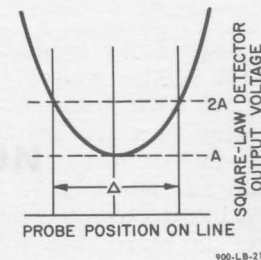

Figure 3-4. Method of measuring the width-of-voltage minimum.
At the voltage maximum, high probe coupling causes a loading effect with a resulting error in the SWR indication. However, at the voltage minimum, a high degree of probe coupling is required to detect the signal. These extremes in the probe coupling requirements at the maxima and minima can cause erroneous SWR indications. A measurement technique called width-of-minimum can be used to accurately extrapolate the voltage minimum. The width-of-minimum technique has its analogy in the measurement of bandwidth between the two half-power points. Figure 3-4 illustrates the width-of-minimum technique which is performed as follows:
d. Move the slotted-line probe carriage to obtain an indication of 0 on the red dB scale on each side of the previously established minimum and note the position of the slotted-line probe for each direction. Record the difference in slotted-line probe carriage position as the distance Δ (refer to Figure 3-4).